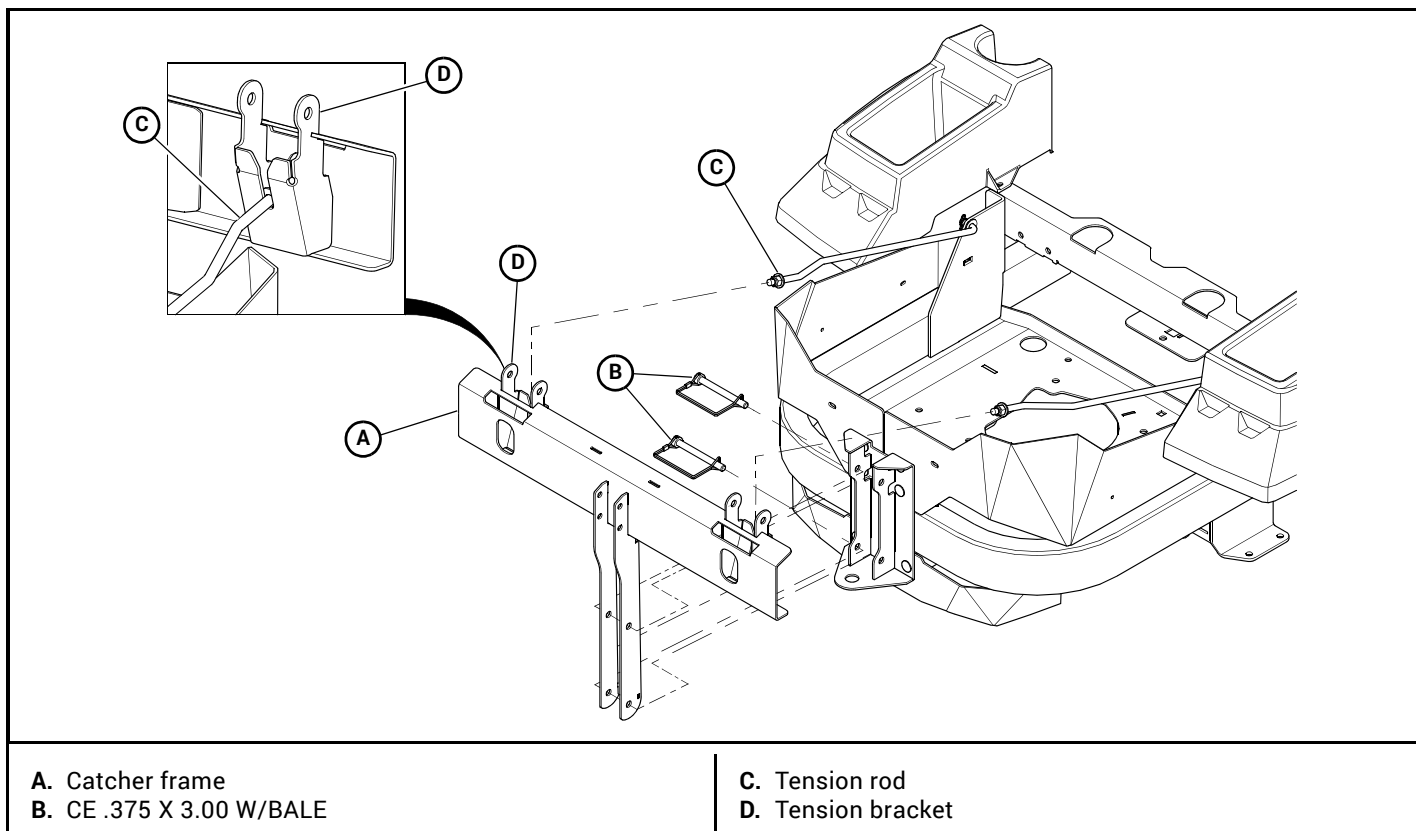

Figure 3-4
9. Attach the catcher frame to the guard mount with the hardware shown. Place the ends of the tension rods in the slots on the tension brackets and tighten. Figure 3-4